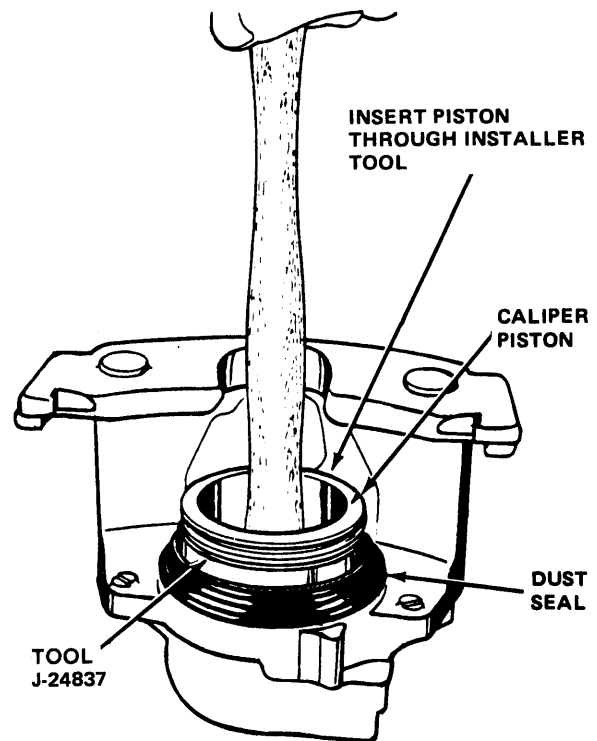

Fig. 9-56 Installing Caliper Piston
(4) Lubricate caliper piston with brake fluid.
(5) Insert piston through installer tool and center piston in bore.
(6) Using hammer handle, apply steady pressure to piston until it is installed halfway into bore (fig. 9-56). do not strike hammer handle or piston during installation. Piston must be pressed into bore only.
(7) Remove installer tool and seat small lip of dust seal in caliper piston groove.
(8) Press piston to bottom to bore using hammer handle.
(9) Check rotor for face runout, thickness variation, deep scores, cracks, and broken ventilating ribs. Refer to Rotor Service for procedures.
(10) Install brakeshoes and caliper as outlined under Brakeshoe Replacement and Caliper Installation.
(11) Install replacement washer on brake hose fitting and connect hose to caliper. Tighten fitting to 25 foot-pounds torque.
(12) Fill master cylinder to within 1/4 inch of reservoir rims and bleed brakes as outlined under Brake System Bleeding.
(13) After bleeding, press brake pedal firmly several times to seat brakeshoes. Recheck master cylinder fluid level and correct if necessary.
(14) Install wheels and tighten retaining nuts.
(15) Lower vehicle.